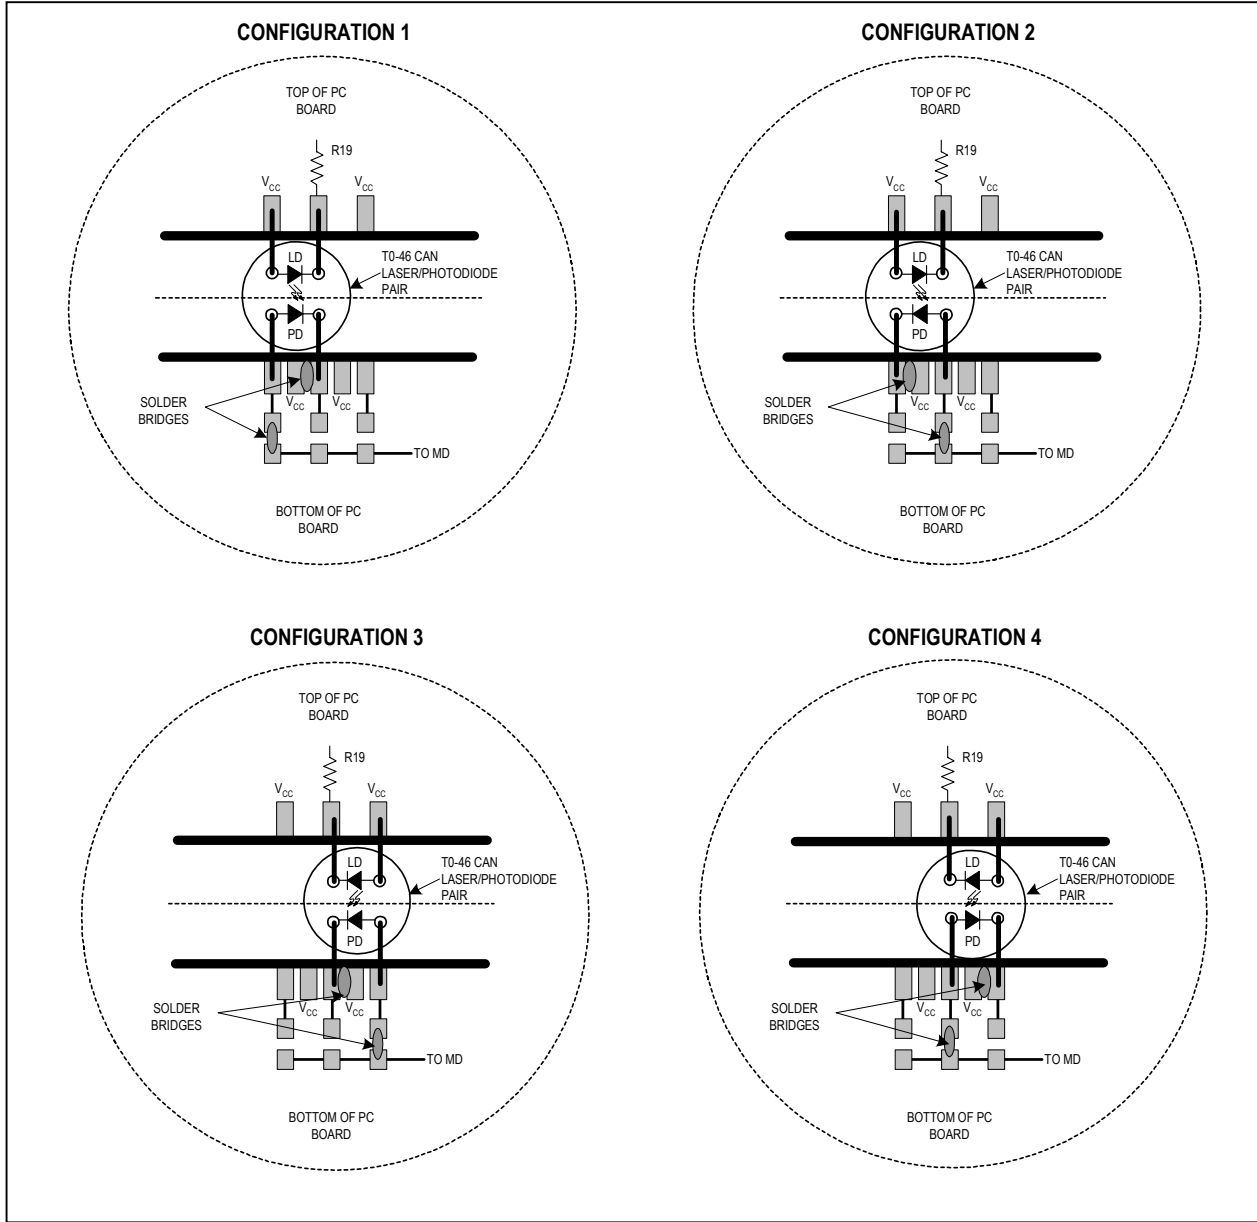

Figure 1. Attachment of Laser Diode/Monitor Diode to the MAX3737 EV Kit
- 4) The EV kit is designed to allow connection of a variety of possible laser/monitor diode pin configurations. Connect a TO-header style laser with monitor diode (Figure 1) as follows:
- Connect the monitor photodiode to two of the five pads on the bottom (solder) side of the PC board, directly below the laser diode pads. Connect the anode and cathode of the photodiode as shown in figure 1.